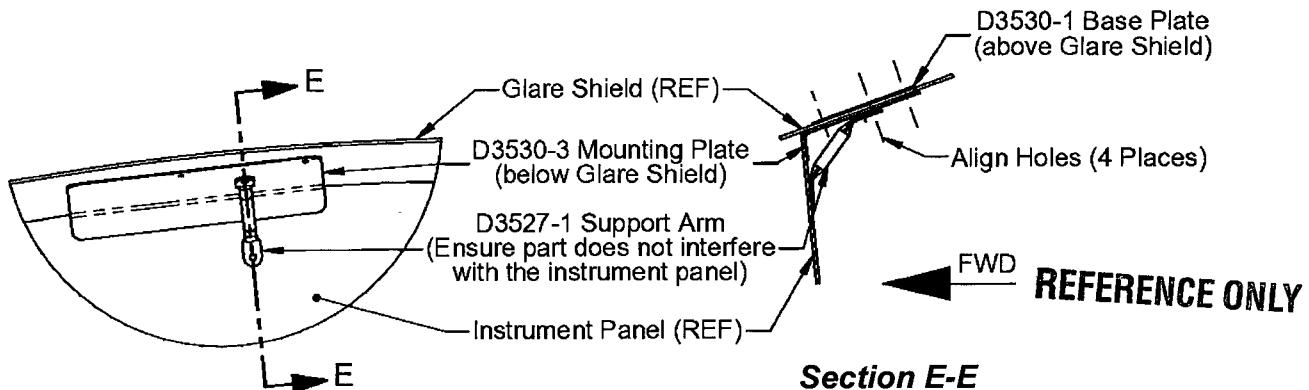

Figure 3.2.2 – D3530-1, D3530-3 and D3527-1 Alignment
3.2.2 Locate the D3530-3 Mounting Plate underneath the glare shield aligning the holes in the mounting plate with the holes in the D3530-1 Base Plate. Locate the D3527-1 Support Arm underneath the glare shield with one hole aligning with the larger #9 ($\varnothing 0.196"$) hole of the D3530-3 Mounting Plate and the other hole against the instrument panel as shown in **Figure 3.2.2**. Ensure that the mounting plate or support arm does not interfere with any instruments on the instrument panel.